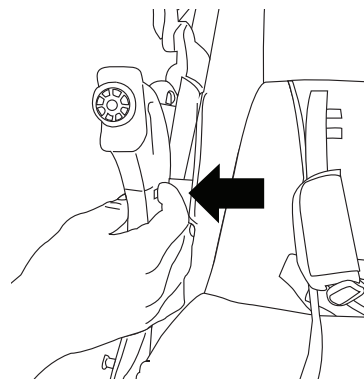

Fig. 13
1. To use Chicco Keyfit 30 Car seat first, lock the back wheels, close the canopy as described in the canopy section (Please see Page 7, Fig. 5A). Recline seat by squeezing both sides of cord housing as described in seat back positioning section (Please see Page 12, Fig. 11) remove child tray (Please see Page 9, Fig. 8C) and child tray attachment arms. Press the release buttons located on the inner side of stroller arm. Press release button and pull upward at the same time until tray attachment arm is released (Fig. 13).